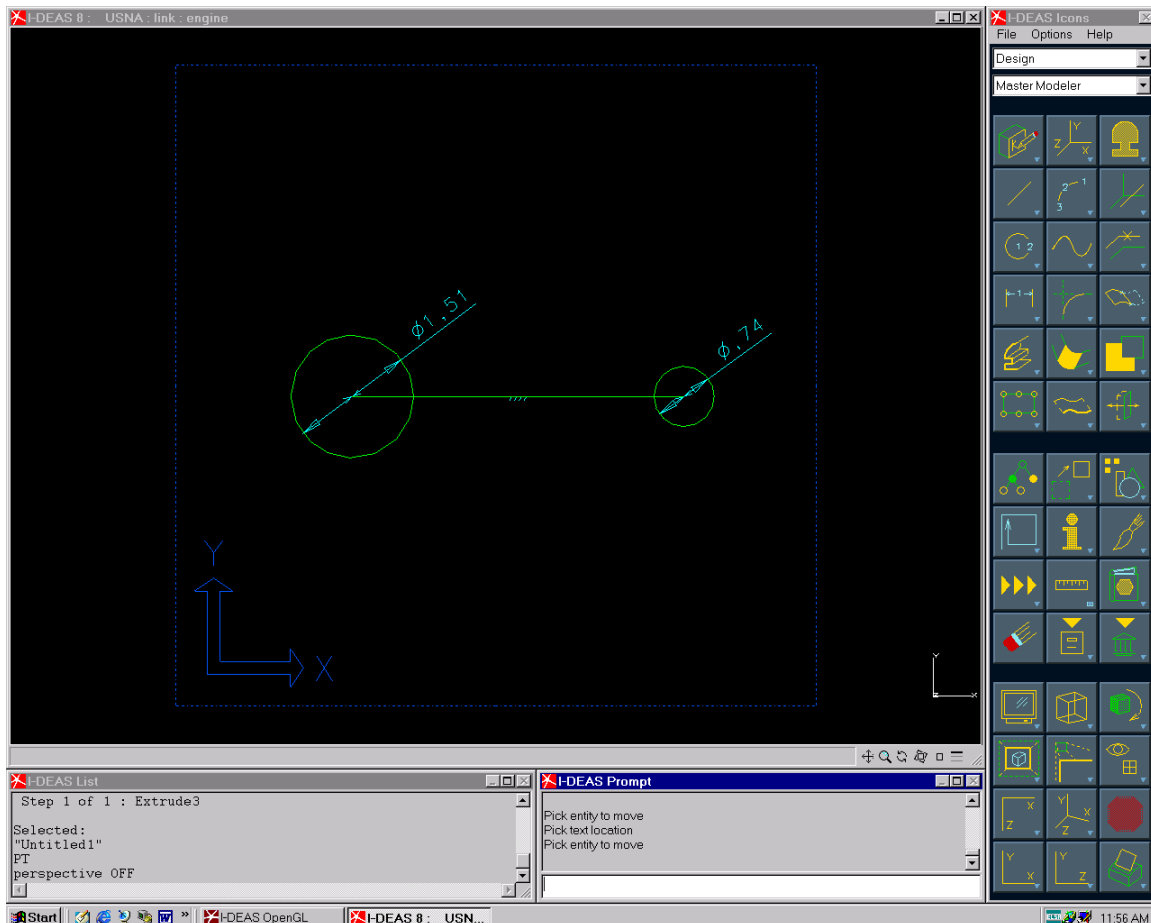

Figure 1
6. Sketch another circle, *approximately 0.75 in.* dia., centered on the other end of the line as shown in Fig. 1.